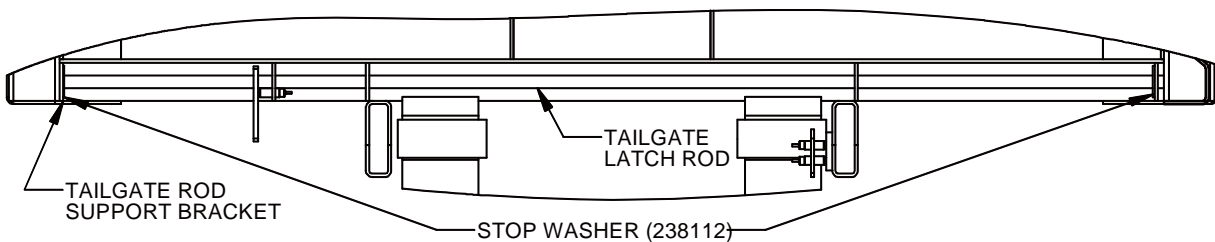
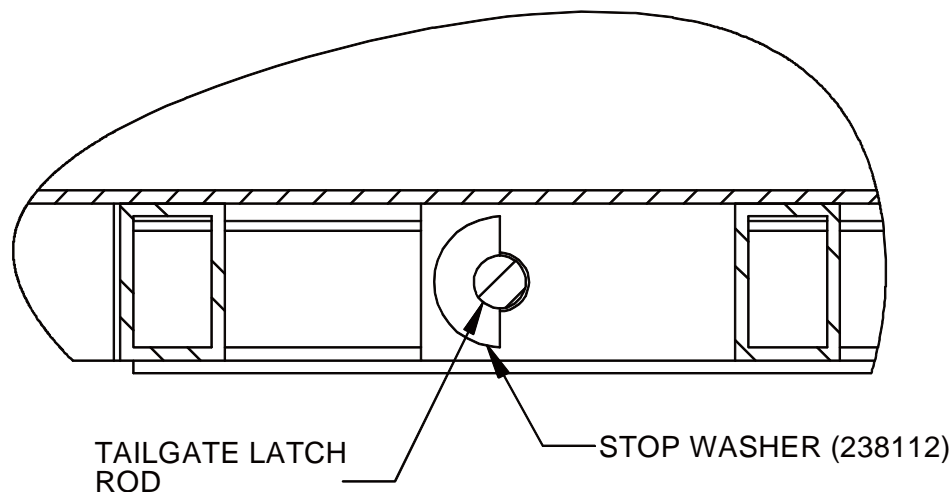

Figure 3 – Stop Washer Location
Figure 4 – Stop Washer Orientation
7. Weld one half of the washer, to the tailgate rod, on the inside of the tailgate rod support bracket on both sides of the body. This is to keep the rod from moving from side to side and causing interference between the tailgate proximity switch and the tailgate cam. Refer to Figure 3 and Figure 4 for proper washer orientation and location.